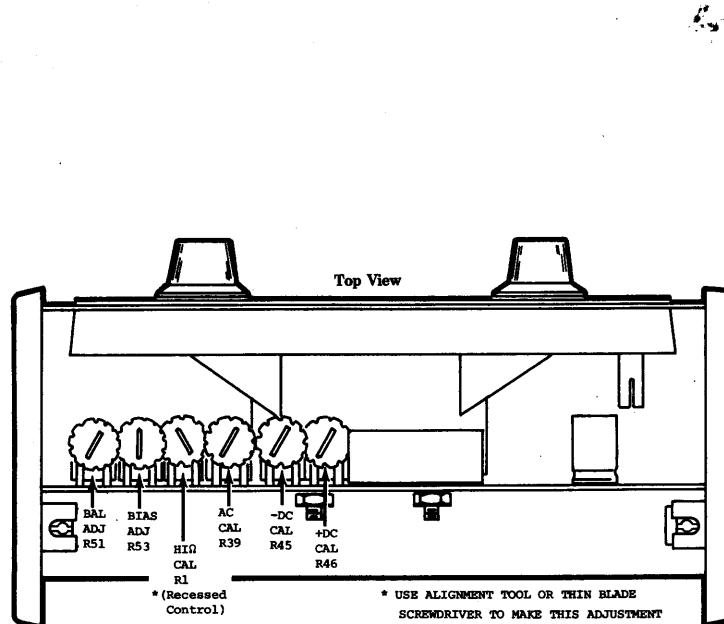

Figure 4. Adjustment Locations
CALIBRATION OF THE 290 (SEE FIGURE 4 FOR ADJUSTMENT LOCATIONS): To gain access to the calibration adjustments it will be necessary to remove the back from this instrument. To remove the back cover, remove the two (2) screws located at the bottom rear and the two (2) screws at the rear near the top of the cover. After the screws have been removed, tilt the bottom part of the back cover outward (away from rear of unit) allowing the line cord to slide through opening and then gently lift the back cover up and away from the top portion of the front panel. Adjustments must be made in the order indicated below: